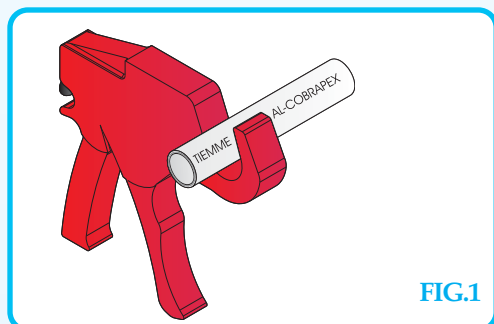

FIG.1
- First, cut the pipe to the desired size by using a pipe-cutter, making sure that pipe cutting is perpendicular to pipe axis (fig. 1).